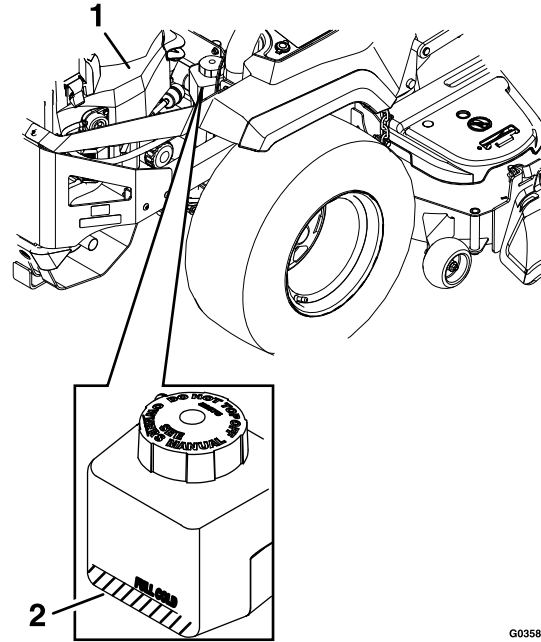

Figure 60
3. Check expansion tank and if necessary add Exmark Premium Hydro Oil to the FULL COLD line (see Figure 60).